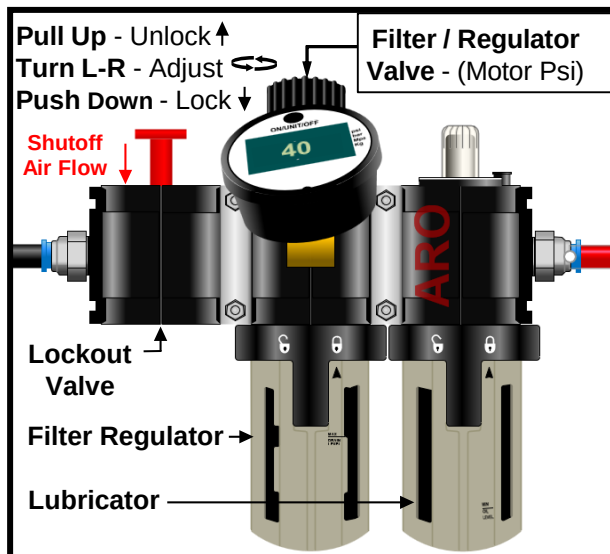
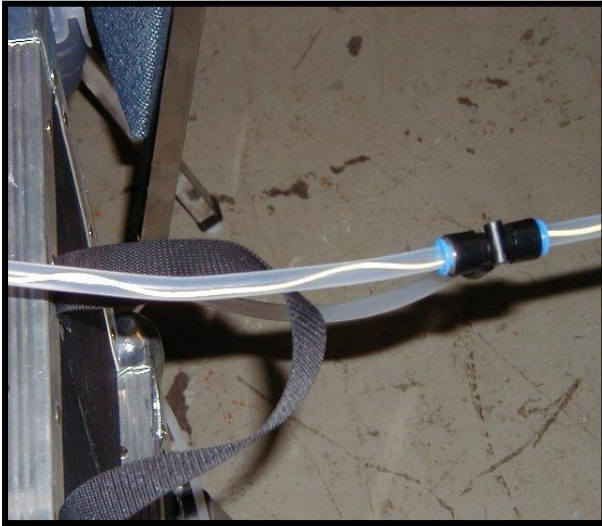

Figure 7
Figure 8
8.3.2 Sometimes the Air Motor Pressure will begin to decline during a blowing operation. The Regulator Valve can be adjusted to return to the 35-40 Psi range. To make this adjustment, carefully lift the valve knob to unlock it, turn until the desired pressure is observed on adjacent pressure gauge and then push down the valve knob to lock it. This adjustment can be made during blowing operations while the Air Motor is running. **See Fig. 7**
See Fig. 7
8.5 Lockout Valve - The BE300 has also been fitted with a lock out valve **See Fig. 7**, the Lockout Valve when activated cuts all air-flow to the Filter Regulator, Lubricator and Air Motor. The Lockout Valve allows the operator to quickly shutdown a blowing operation in the event it is necessary. Example: If the Fiber Bundle begins to wave, shake and/or bunch up when viewed through the Clear Tube it may be necessary to lower air pressure to the Motor while increasing air to the span. If these adjustments fail to stop all waving and shaking and, fail to restore blowing progress or more importantly, the Fiber Bundle stops moving, SEL recommends that you stop the blow and shutdown air to the Motor using the Lockout Valve to avoid damage to the Fiber Bundle. **See Fig. 8**
See Fig. 8